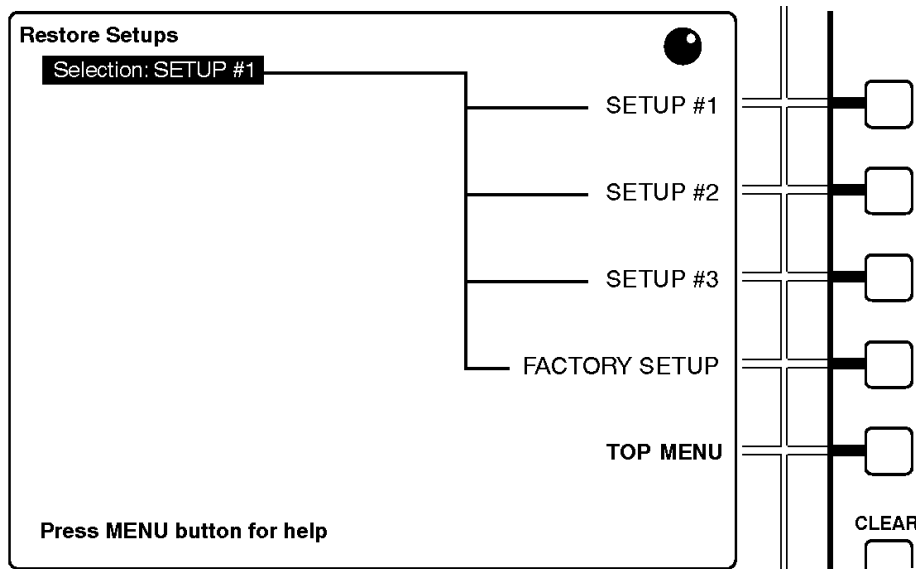

Figure 31: The Restore Setups submenu
2. Use the multi-function knob to scroll the menu highlight to “Restore Setups.” Press any soft button to enter the submenu. It will resemble the display illustrated in Figure 31.